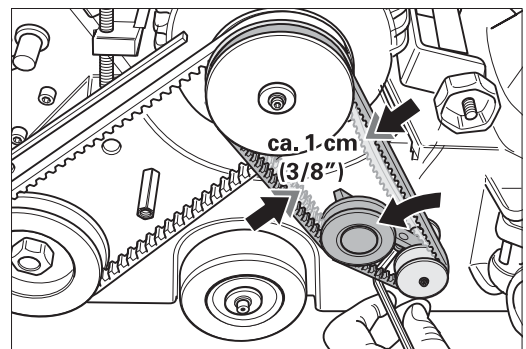

Fig. 54 Tension the suction V-belt using the belt tensioner.
- 6 By turning the tensioner, tighten the smaller suction belt and carefully tighten the clamping screw (Fig. 54).